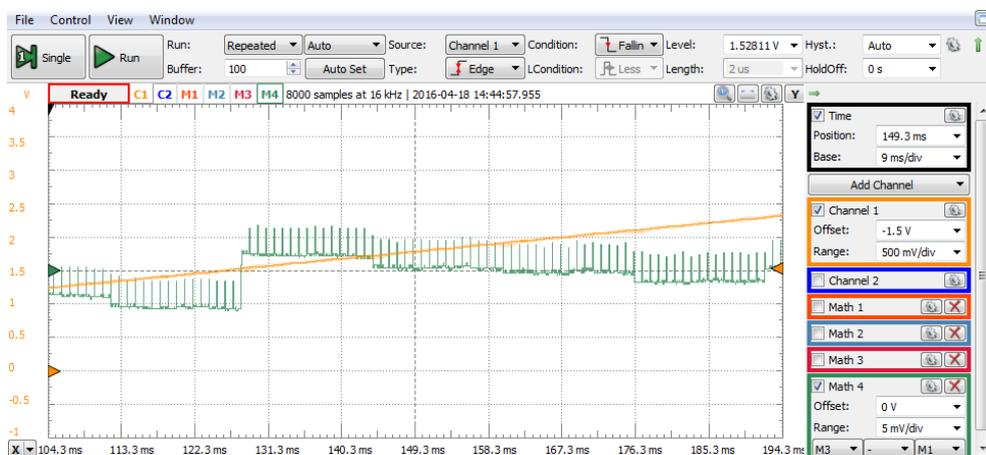

Figure 3.37 Identifying transition-generated spikes in the error graph
- B. After running scope in “Single” mode, change the scope time base to enlarge the image, as in Figure 3.37. You will be able to identify the dynamic spikes. Coming back to the original time base, you will be able to ignore the spikes in your measurements/adjustments.